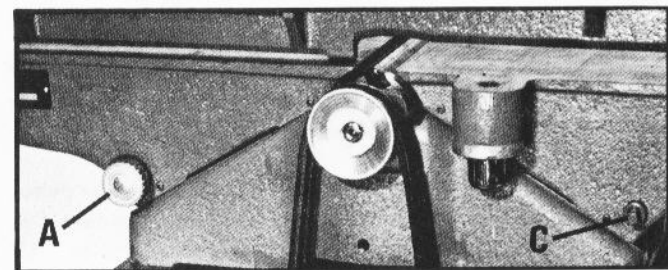
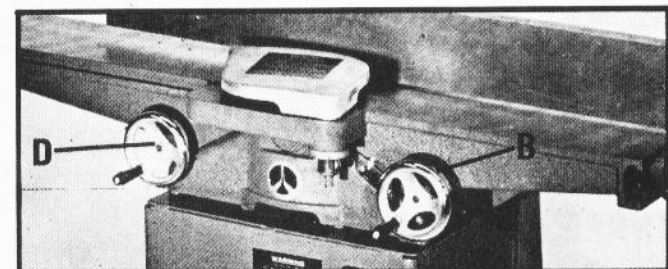

Fig. 15
Fig. 16
To raise or lower the front table, loosen lock knob (A) Fig. 15, and turn handwheel (B) Fig. 16. When table is set at desired position, tighten lock knob (A) Fig. 15.
To raise or lower the rear table, loosen lock screw (C) Fig. 15, and turn handwheel (D) Fig. 16. When table is set at desired position, tighten lock screw (C) Fig. 15.